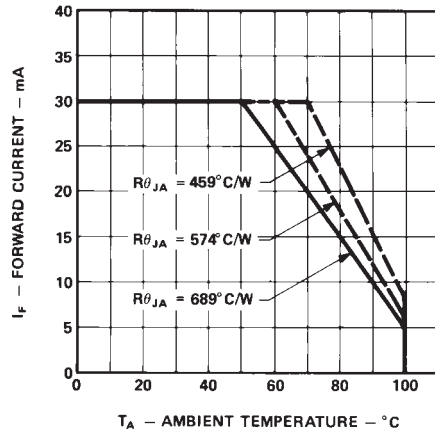

Figure 4. Maximum Forward DC Current vs. Ambient Temperature. Derating Based on $T_J \text{ Max.} = 110^{\circ}\text{C}$.
2. Derate linearly as shown in Figure 4.